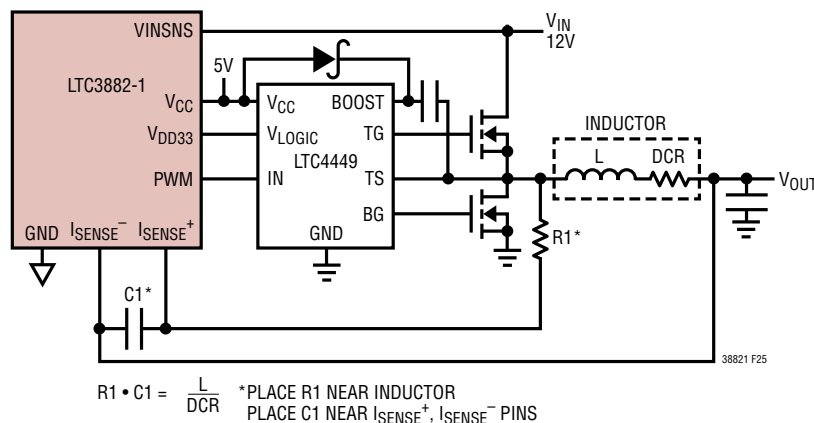

Figure 25. Inductor DCR Output Current Sense
5. Place the output current sense resistor (if used) immediately adjacent to the inductor output. PCB traces for remote voltage and current sense should be run together back to the LTC3882-1 in pairs with the smallest spacing possible on any given layer on which they are routed. Avoid high frequency switching signals and ideally shield with ground planes. Locate any filter component on these traces next to the LTC3882-1, and not at the Kelvin sense location. However, if DCR sensing is used, place the top resistor (R_1 , Figure 25) close to the switch node.
To maximize efficiency at full load the LTC3882-1 is designed to sense current through the inductor's DCR, as shown in Figure 25. The DCR of the inductor represents the small amount of DC winding resistance of the copper, which